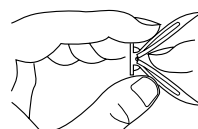

Figure 16 - Folding Anchor
2. Fold wall anchor as shown in Figure 16.